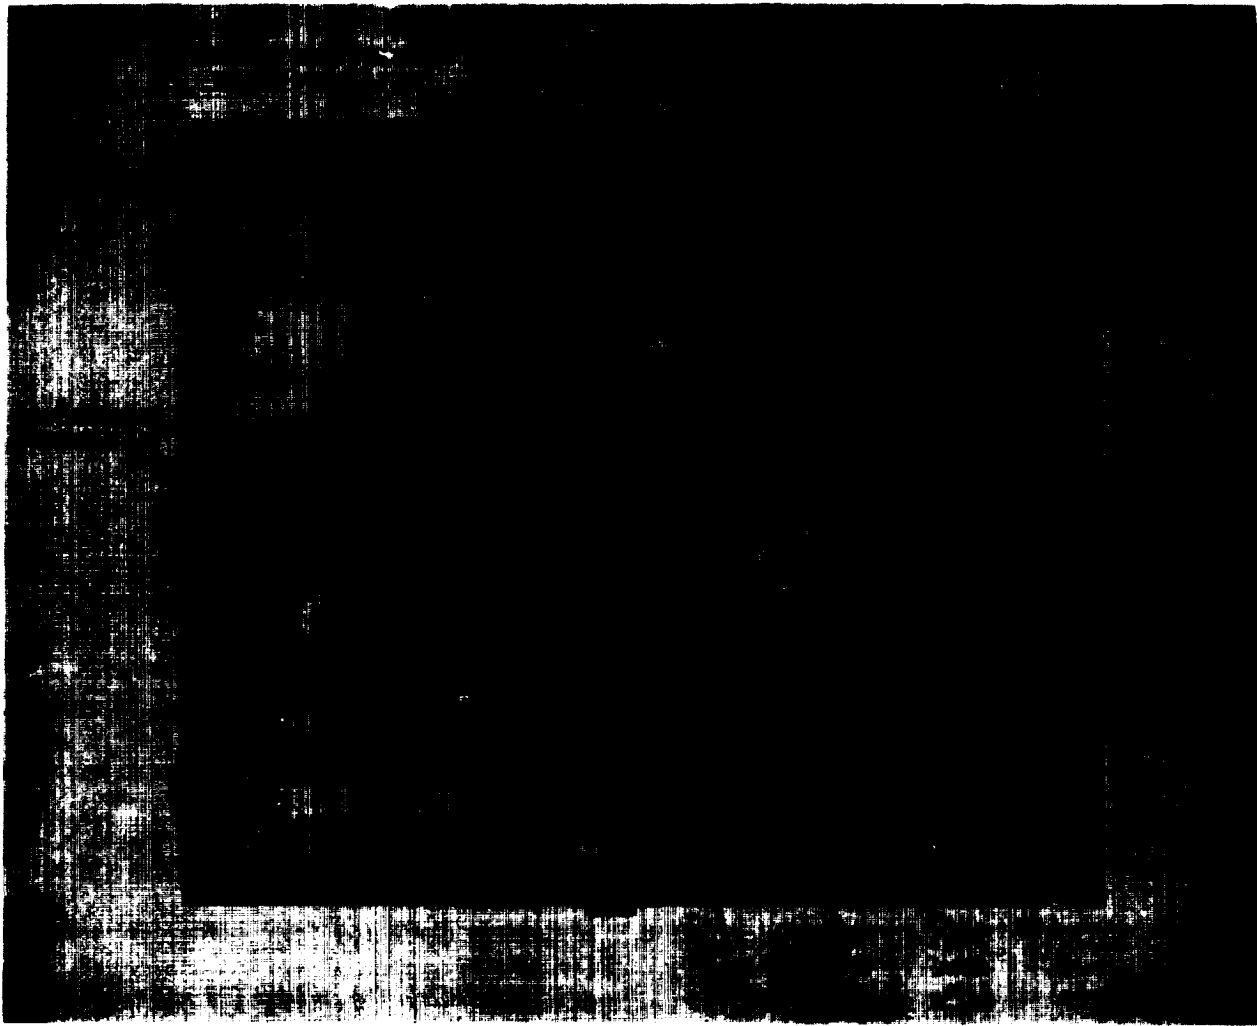

Figure 3-2. Removal and replacement of detector amplifier assembly A₄.
3-12. Removal and Replacement of Detector Amplifier Assembly A4 (IF Amplifier Detector) (Fig. 3-2)
The waveguide assembly includes six diode semiconductor devices. Two are in the discriminator (CR1 and CR2) ; two are in the mixer (CR3 and CR4) ; and two are in the modulator (CR5 and CR6). The diodes are located directly underneath connectors having corresponding numbers (fig. 3-2). To remove and replace these diodes proceed as follows :
- Disconnect klystron leads from terminal board TB2 (fig. 3-2), identifying each lead connection.
- Remove four screws (6), washers (5) and nuts (4) which hold klystron electron tube (7) to waveguide section.
- Replace with new klystron electron tube (7), securing with screws (6), washers (5), and nuts (4). Care must be taken in tightening the cap screws so that the tube flange is not distorted and the tube pinch-off is not cracked.